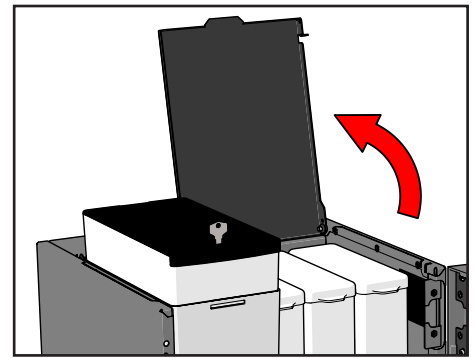

Figure 64. Open top cover
2. Open the top cover (see Figure 64).